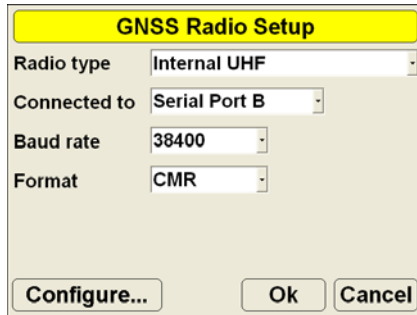

Figure 5-35. Run Radio Setting Program
2. On the *radio setup* dialog box (Figure 5-35 on page 5-28), press **Configure** (if available) to run the radio setting program.